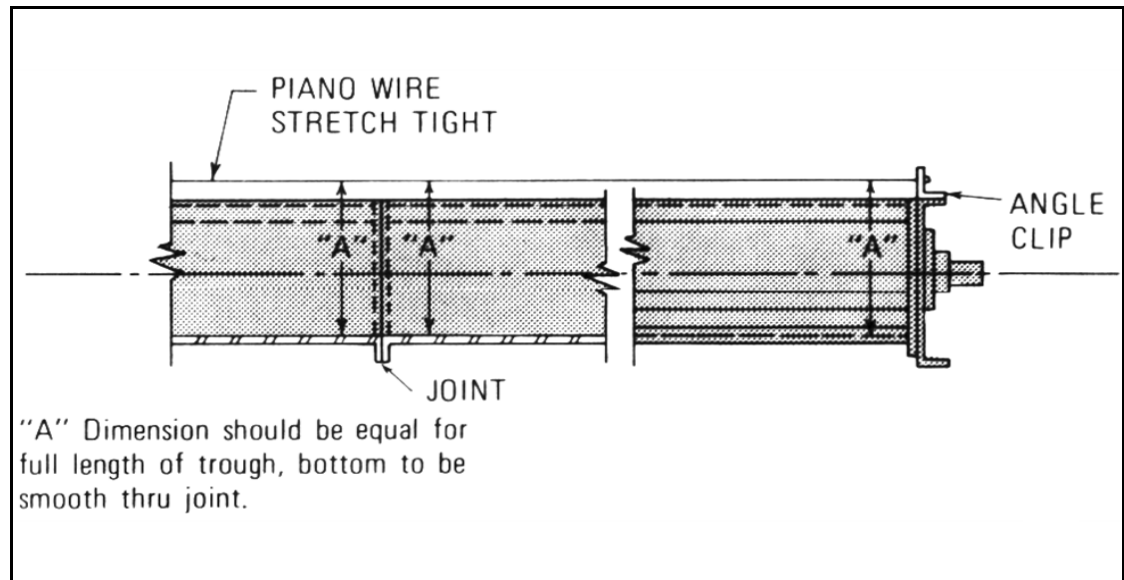

Figure 3.3
3. Place troughs and trough ends in proper sequence with discharge spouts properly located. Connect the joints loose. Do not tighten the bolts. Align trough bottom and centerline perfectly using piano wire as shown in Figure 3.3. Then tighten joint bolts and all anchor bolts.